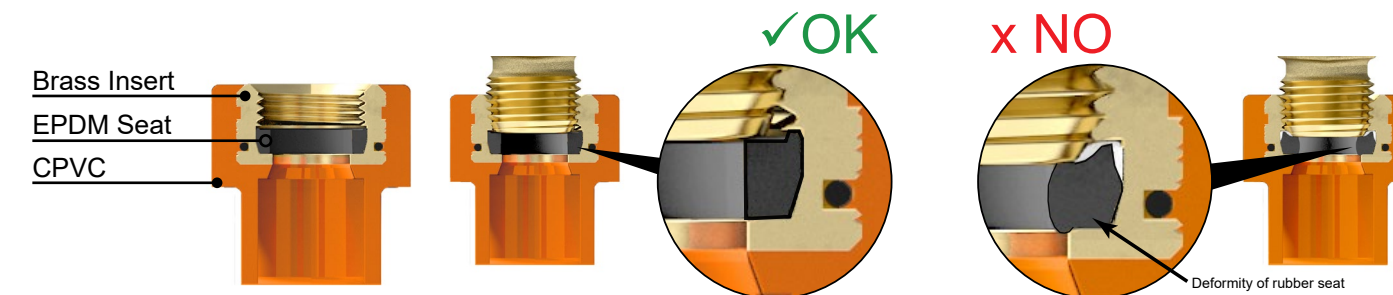

Figure 1: Sprinkler Contact on Rubber Seat
After seating the sprinkler, use the sprinkler manufacturer's recommended wrench to turn the sprinkler clockwise (CW) a minimum of one half (1/2) turn for seal. If sprinkler frame arms require alignment with pipe, continue to rotate CW to align, up to the maximum of 1 1/4 turns from initial seat to sprinkler contact as stated and as shown in Figure 1.
Do not tighten more than 1 1/4 turns from initial sprinkler touch to rubber seat. Over-tightening will cause the rubber seat to protrude into the waterway and reduce the K-factor which impedes flow. Additionally, permanent damage to the rubber seat will occur leading to failure and leakage. Refer to Figure 1.